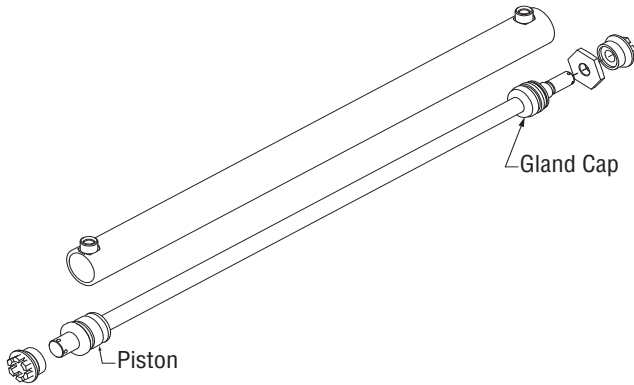

Figure 6-6, Cylinder Rebuild
3. Remove outer snap ring. Tap gland into barrel using a rubber mallet. (Figure 6-6)
6. Remove the piston retaining nut and remove the piston. (Figure 6-6)